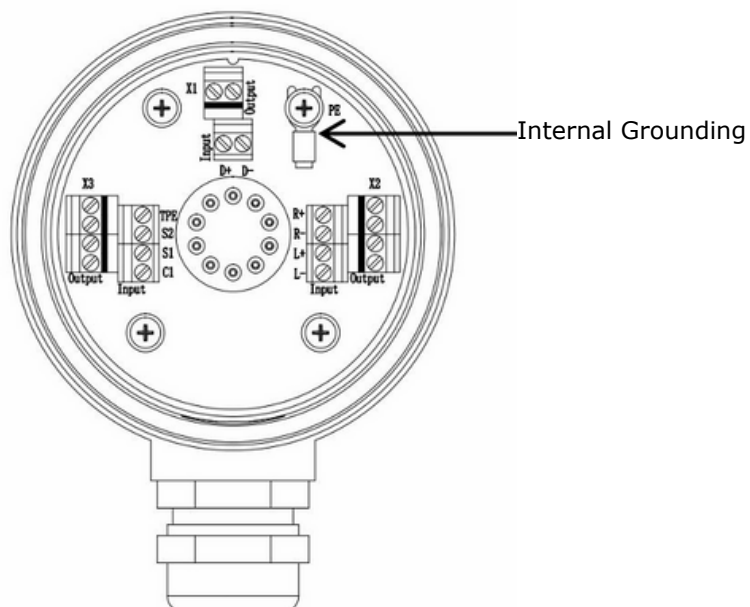

Figure 4
- Inside the sensor junction box, the terminal board has a dedicated internal grounding point, where the shield of the sensor cable is connected; see Figure 4.